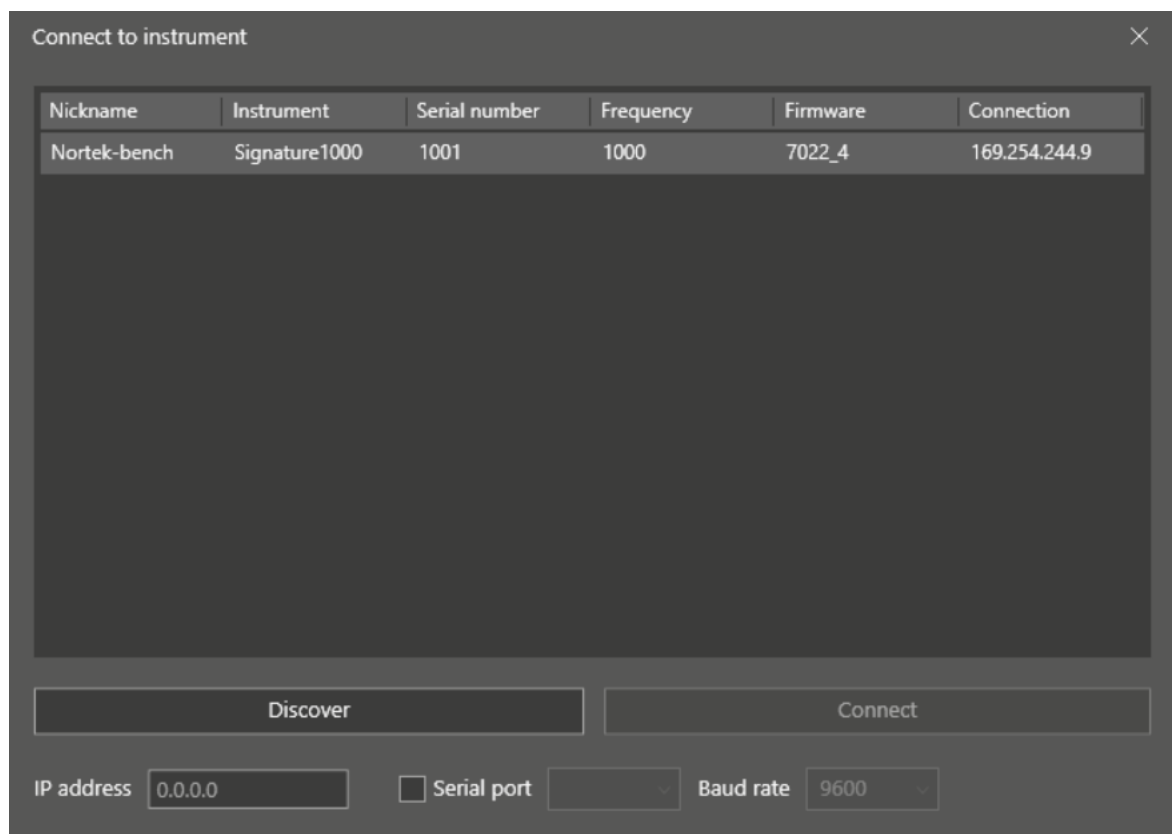

Figure 5. Discovery dialog
2. Open the Nortek Deployment software and click **Connect** to launch the Discovery feature (figure 5). This will produce a window with a list of instruments available on the network. It may take a few minutes before the Discovery tool lists a newly connected instrument. This is due to the IP address assignment process (more details are available in Appendix). If the instrument is not shown in the list, wait approximately 90 seconds and click **Discover** again. The computer is capable of communicating with the instruments shown with a white background in the list. If an instrument in the list has a red background, it is not possible to connect to it (see section Software Problem).